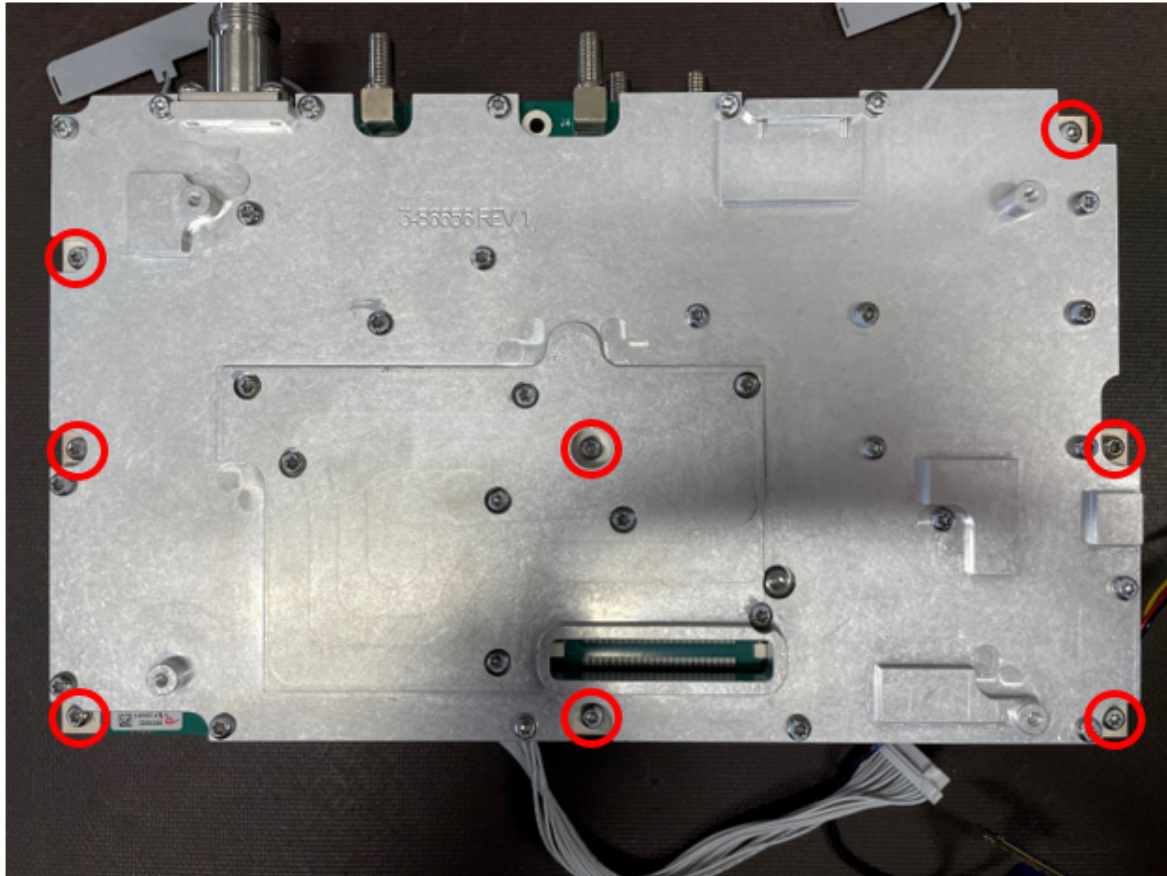

Figure 3-16. SPA PCB Removal: Torx Screws
3. Remove the eight Torx screws securing the SPA PCB Assembly to the Main PCB using a T10 Torx driver. See Figure 3-16.